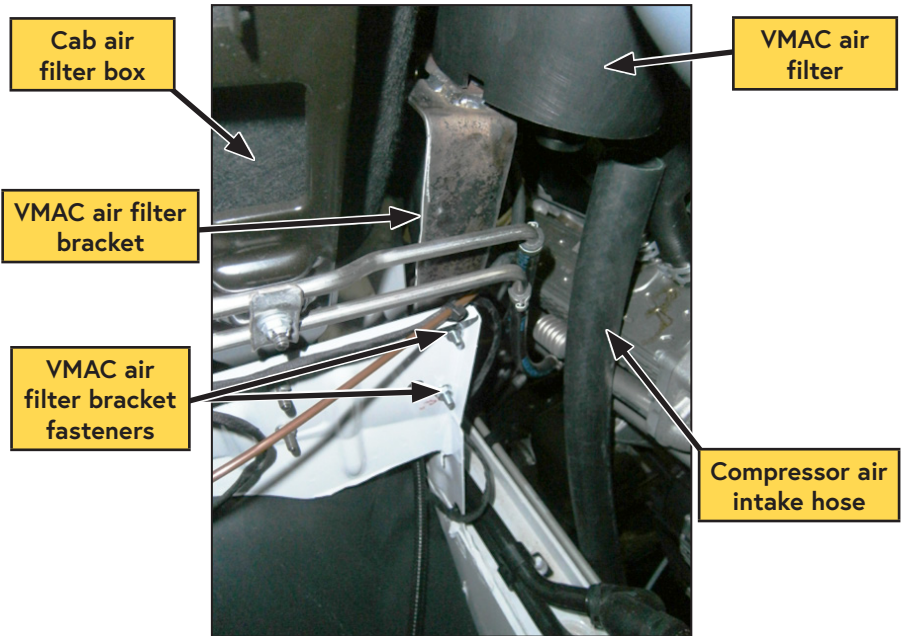

Figure 17 — Install compressor air filter bracket
- Install the compressor air filter bracket behind the radiator overflow bottle. Use the supplied M8 × 18 mm fasteners with lock nuts in the 2 existing holes located toward the engine below the cab air filter box (Figure 17).
- Route the compressor air intake hose from the bottom of the VMAC air filter, down between the engine and the frame, to the compressor (Figure 17).